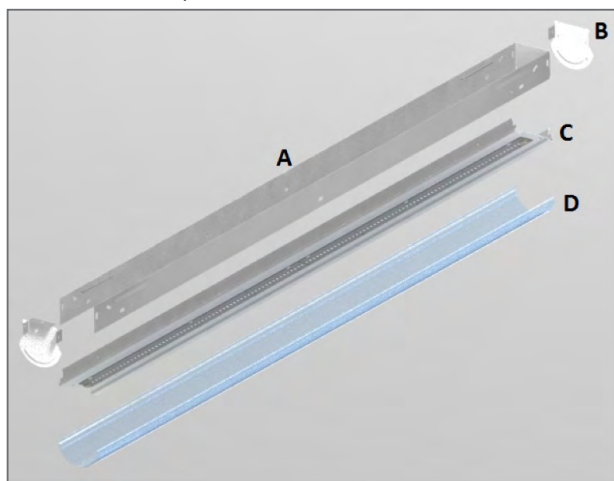
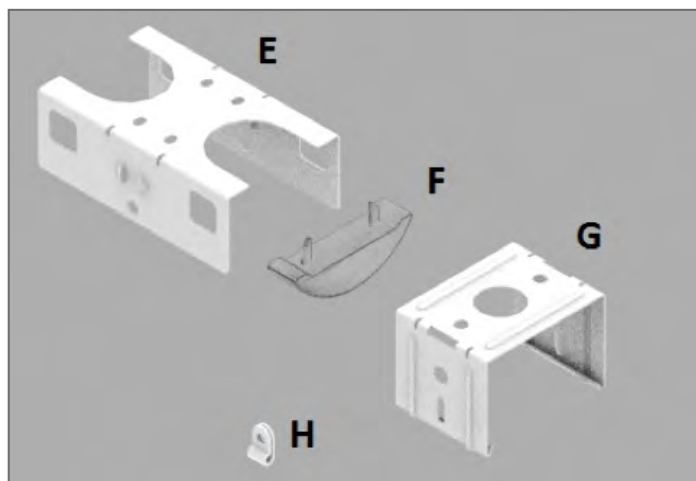

FIGURE 1
FIGURE 2
Refer to Figure 1 and Figure 2 for identification of the parts referenced in this guide.
3. Position the tong hanger brackets ("H" in Figure 2) to the desired mounting location, spaced 40" apart. At the designated mounting points, use appropriate fasteners (by others) to secure the brackets to the ceiling. For row mounted fixtures, one bracket at each end and a minimum of one per fixture in between is required.
3. Snap the row mounting bracket ("E" in Figure 2) into the first housing in place of the metal end cap and repeat for the remaining housings, shown in Figure 20.
3. Measure 6.5" from the end of the luminaire and mark the housing. Snap the wire guard mounting clip ("J" in Figure 2) onto the guard and fasten in place at the marking using a self-drilling screw as shown in Figure 25. Repeat this step for each side and end of the luminaire, and ensure that the wire guard is centered.